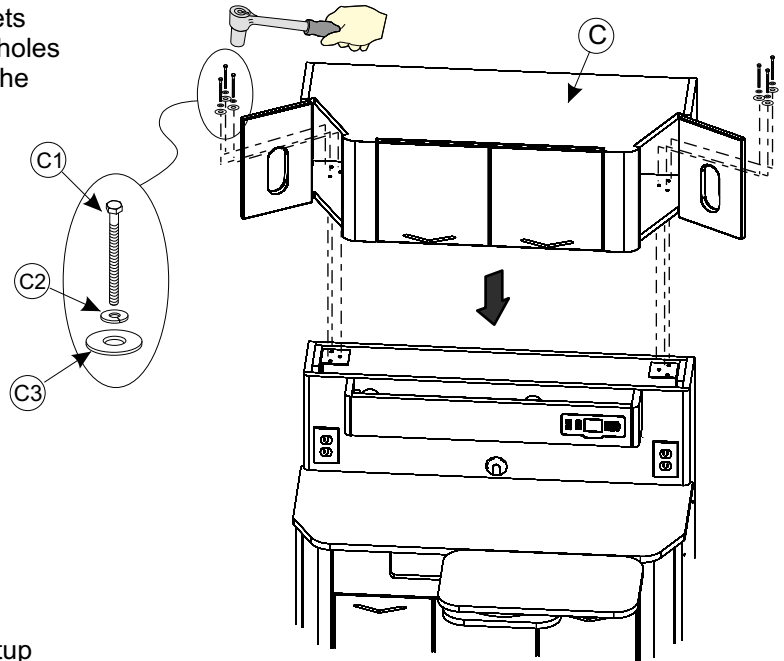

Figure 3
Place Lower Cabinet Upper Storage (C) onto metal brackets located at the top of the Lower Cabinet sides. Line up the holes with in the metal brackets with the holes in the bottom of the Upper Storage (see Figure 3).